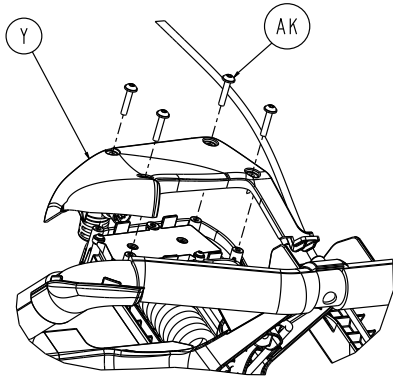

Figure 71 – Remove the back UI button screws
5. Using a T20 Torx driver, remove the four round washer head tapping screws (AK) that secure the back UI cover (Y) to the button housing (Figure 71). Save the screws and cover.